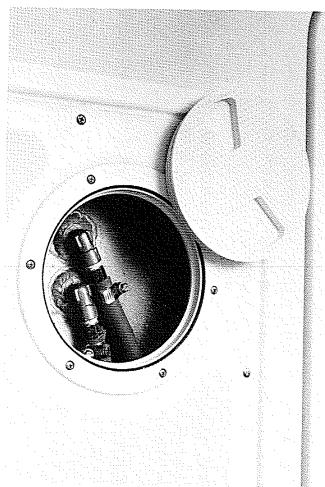

Figure 14
2. Check the fuel compartment for fuel leaks and fumes. Make sure all fuel lines and fittings are tight. See figure 14.